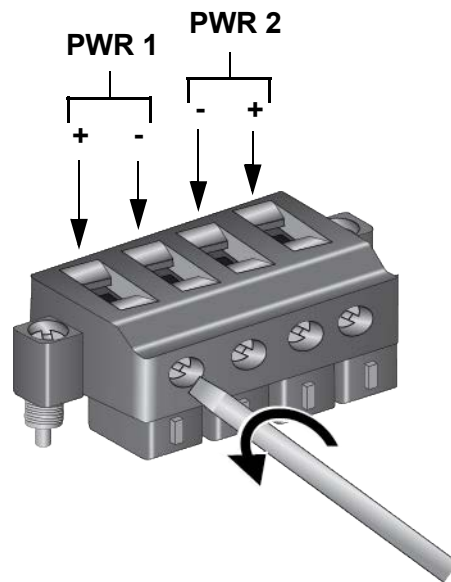

Figure 51. Loosening the Wire Retaining Screws on the DC Input Plug
5. Use a #2 screwdriver to loosen the wire retaining screws of the pins corresponding to the selected DC input circuits. If you are powering the switch with only one DC power supply, you may use either PWR1 or PWR 2 pins. Refer to Figure 51.